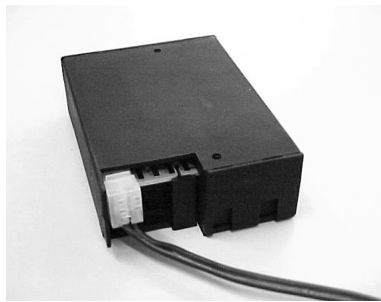

fig. 8
- Slide the white plug of the cable onto the receiver circuit board (fig. 8).